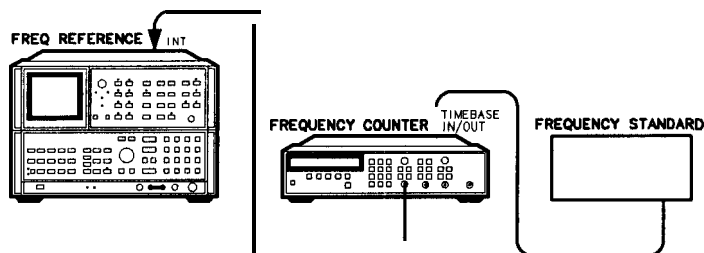

Figure 3-52. 10 MHz Frequency Standard Adjustments Setup
- Connect the (Cesium Beam) Frequency Standard to the Frequency Counter rear-panel **TIMEBASE IN/OUT** connector as shown in Figure 3-52.
11. Position the spectrum analyzer on its right side as shown in Figure 3-52, and remove the bottom cover. Typically, the frequency of the A22 10 MHz Frequency Standard will shift slightly when the spectrum analyzer is reoriented. Record this shifted frequency of the A22 10 MHz Frequency Standard.